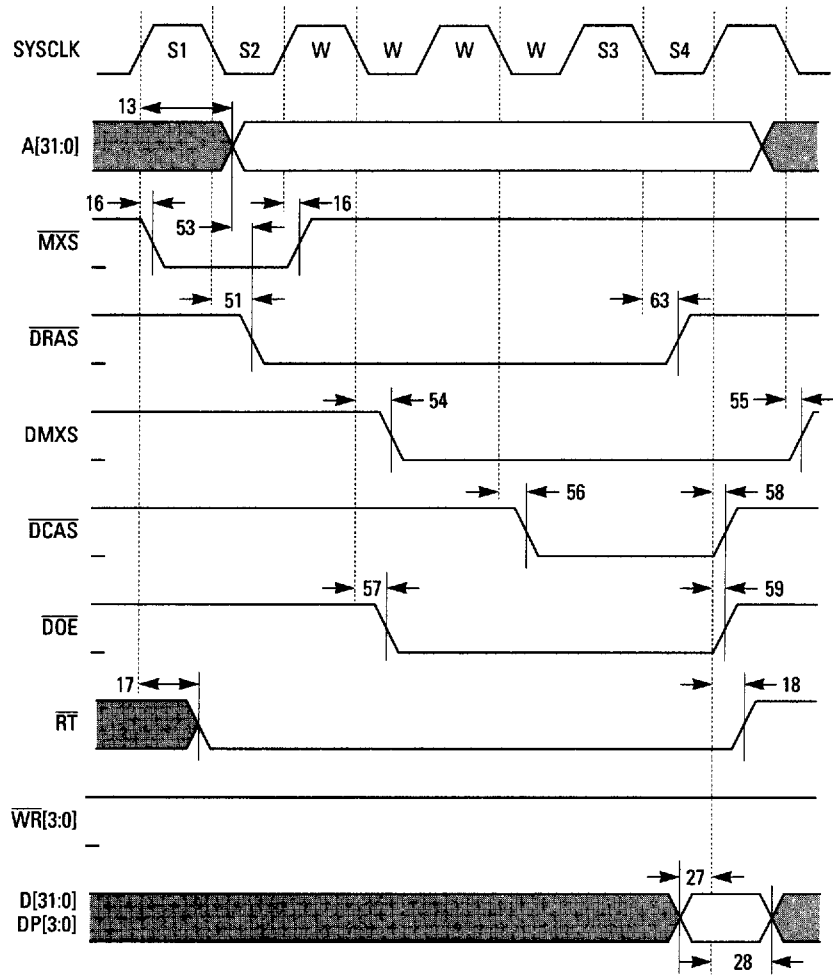

Figure 10
- DRAM Write Timing (Figure 10)